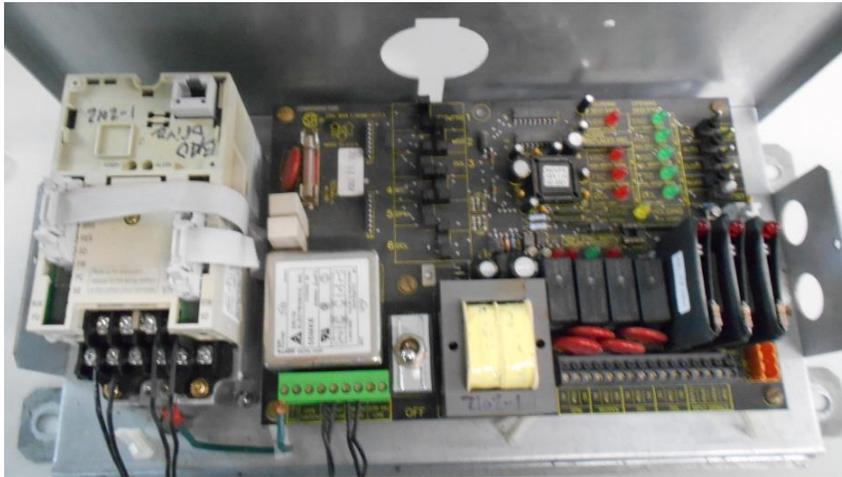

Figure 10 - MOVFR-0001N
- Remove Control board and Drive shown in *Figure 10 - MOVFR-0001N* (shown without CAMs)